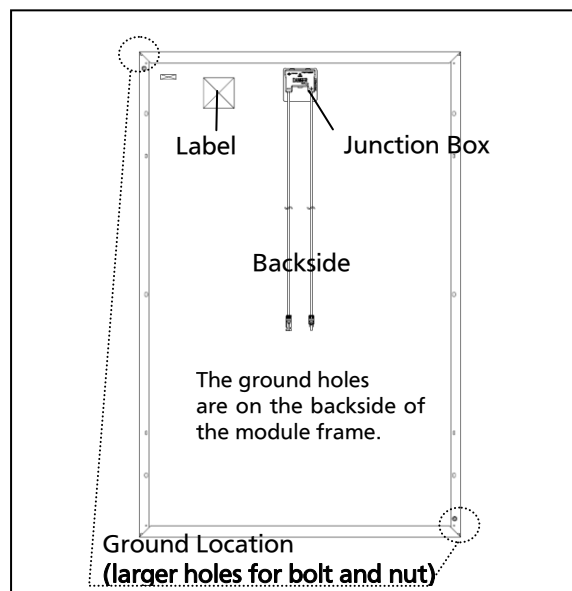

Figure 3.1
- Each ledge on the module frame has two larger holes for bolts (0.205" diameter (5.2 mm)). These ground holes are marked with a "G" or "ground mark" adjacent to their location on the frame rail (see Figure 3.1).
#### Method- Use a bolt and nut (see Figures 3.1 and 3.2)
illustrated in Figure 3.1.